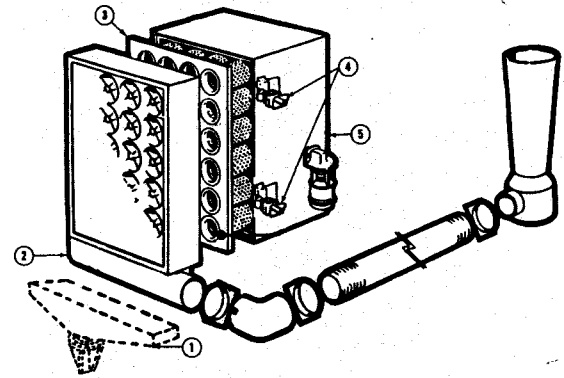

Fig. 2-19, (N21026). Air cleaner - cartridge type (two stage)
1. Loosen wing nuts (4, Fig. 2-19 or 2-20) on air cleaner housing (5) to remove pre-cleaner panel with dust bin (1). To remove pre-cleaner panel (2) equipped with exhaust aspirator loosen "U" bolt clamp securing pre-cleaner to aspirator tubing.
2. To remove dirty Pamic cartridge (3), insert fingers in cartridge opening using a "bowling-ball grip." Loosen all four corners of cartridge, one at a time, by pulling straight out.
2. To install a new cartridge, hold cartridge (3, Fig. 2-19 and 2-20) in same manner as when removing from housing (5). Always inspect inside of air cleaner housing keeping it free of all foreign material. Insert clean cartridge into housing; avoid hitting cartridge tubes against sealing flange on edges of air cleaner housing.
4. Replace pre-cleaner panel (2) and tighten wing nuts (4) by hand, for final tightness turn 1-1/2 to 2 turns with a small adjustable wrench. On pre-cleaner with exhaust aspirator, assemble aspirator tube to pre-cleaner panel and tighten "U" bolt.